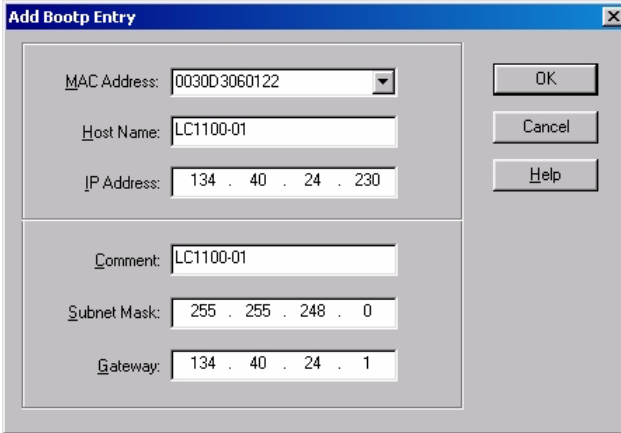

Figure 17 Add Bootp Entry - Enter your parameter
- 5 Select *Configure* -> *Add Entry* to configure the Bootp Manager (Figure 17). The drop down box "MAC address" lists all MAC addresses found. Select your MAC address. If no hardware address is found, select *Cancel* and repeat step 3 and step 4.